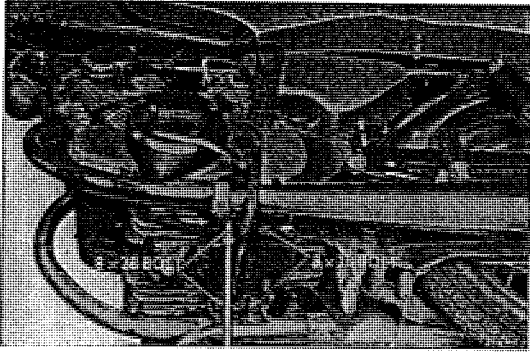

Fig. 3.1 Footrest arm bolts
2. Remove the right and left exhaust pipe joints and remove the four 8×28 bolts holding the muffler (together with the footrest arm) and 8×38 bolts holding the footrest pinion. Separate the parts from the engine. (Refer to Fig. 3.1 and 3.2)